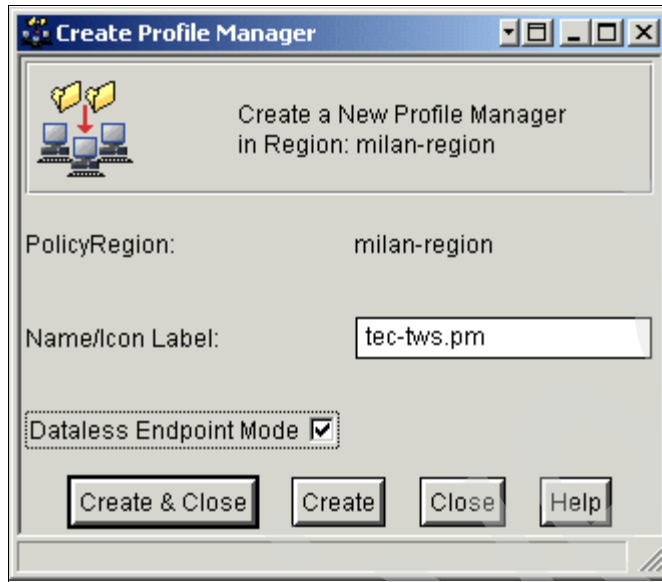

Figure 8-18 Create Profile Manager window
4. Enter a name for the new profile manager and select **Dataless Endpoint Mode**. In our environment for this book, we chose the name tec-tws.pm as shown in Figure 8-18 on page 355.